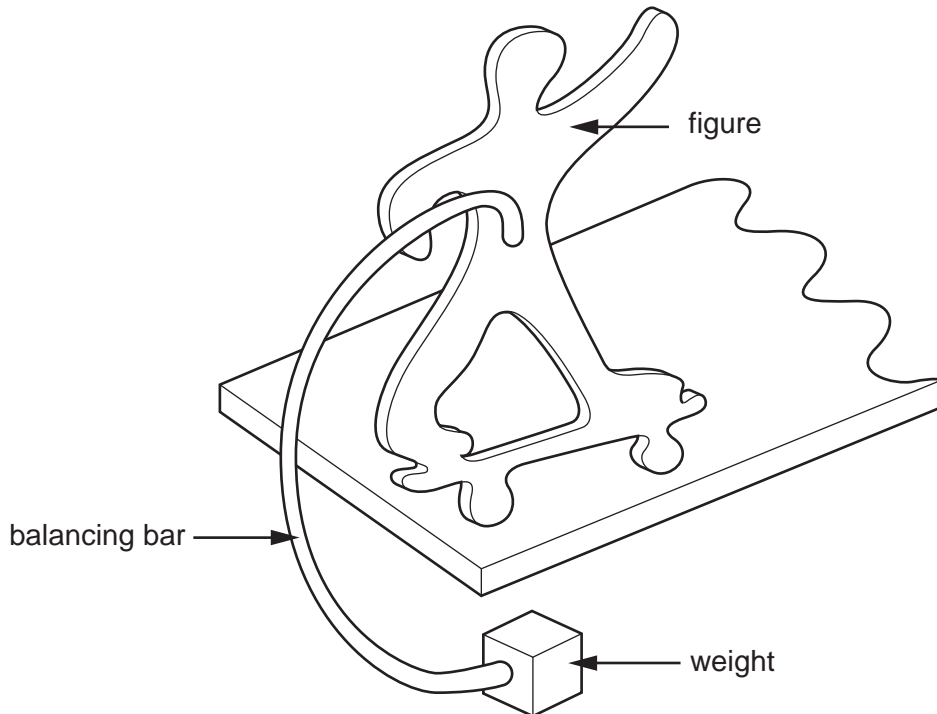

Fig. 1
- 1 Fig. 1 shows a balancing toy which is to be made in a school workshop.